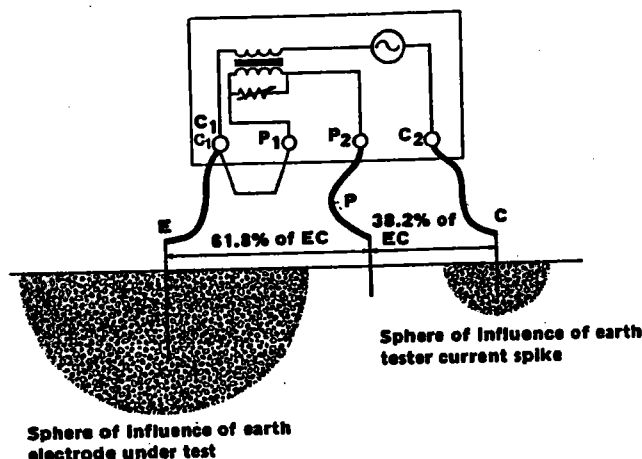
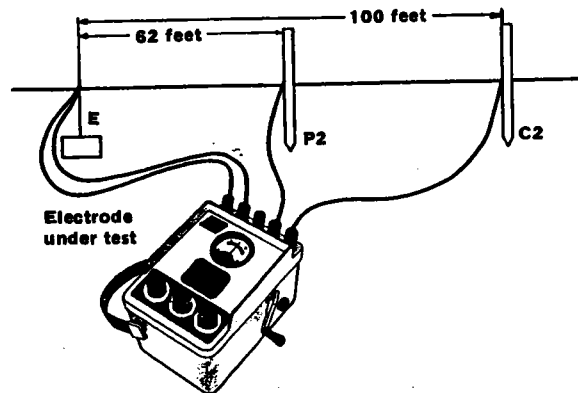

Figure 3-2. Positioning Ground Rods in Relation to the Electrode Under Test.
Figure 3-6. Alternative Connections for Testing Resistance to Earth of an Earth Electrode Compensating for Cable Resistance where Long Leads are Required.
b. TEST ELECTRODE SPACING. Fall-of-potential or 3-point method is commonly used for single rod or small earth grids. This involves positioning current and potential rods C and P as shown in Figure 3-2 and connecting these by suitable cables to the earth tester to complete the current and voltage circuit. The tester is calibrated to read directly the resistance of the electrode E under test. To obtain a valid reading, the current rod must be properly located. Since both possess spheres of influence, the C2 rod must be sufficiently remote to prevent these areas from overlapping. Furthermore, the potential rod must lie between these two areas, preferably along a straight line between them.
In Figure 3-2, the dimensions of the spheres of influence of E and C are frequently unknown and to allow a safe margin the distance chosen for EC may be quite high. It is also necessary to experiment with the location of P.
1. Jumper terminals C1 and P1 and from them connect a lead to the electrode under test (E, figure 3-2). Keep this lead short as its resistance will be included in the test. However, separate leads may be used from terminals P1 and C1 to E, as in Figure 3-6, in which case the lead resistance will be excluded.